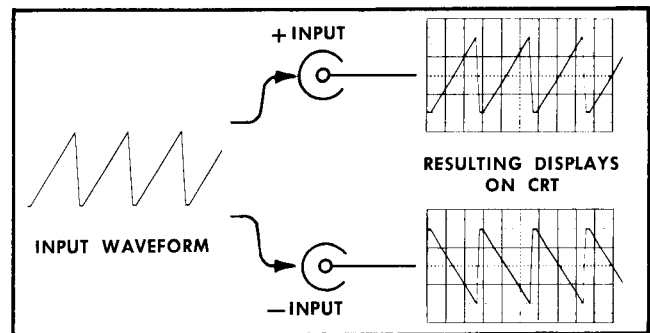

Fig. 2-1. Waveforms applied to the +INPUT connector produce an upright display, while waveforms applied to the -INPUT are inverted.
+INPUT	Signal input connector. Positive input produces positive deflection (see Fig. 2-1).
-INPUT	Signal input connector. Positive input produces negative deflection (see Fig. 2-1).